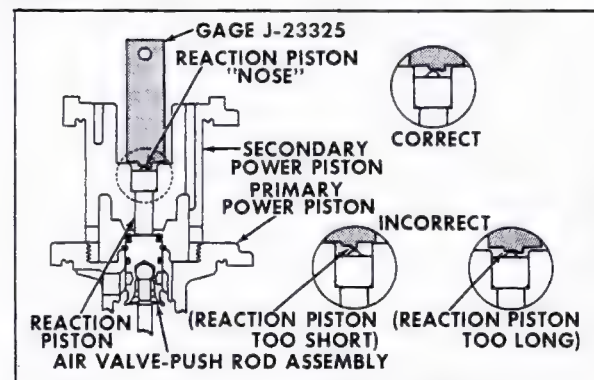

Fig. 5-45 Gauging Power Piston
14. While holding primary power piston in one hand, place Gage J-23325 in the secondary power piston so that the outer edges of the gage rest on the bottom of the large cavity, with the two gaging levels within the smaller reaction piston cavity, Fig. 5-45.
15. Move the gage to the left or right of the "nose" of the reaction piston. The correct size reaction piston is indicated when the "nose" of the piston "hits" the lower level of the gage and clears the higher level of the gage while permitting the outer edges of the gage to remain seated on the larger cavity of the secondary power piston, Fig. 5-45.
If the reaction piston is too long, the higher level of the gage will not clear the "nose" without moving the outer edges of the gage off the seat in the large cavity of the secondary power piston. If the reaction piston is too short, both levels of the gage will clear the "nose" of the reaction piston, Fig. 5-45.